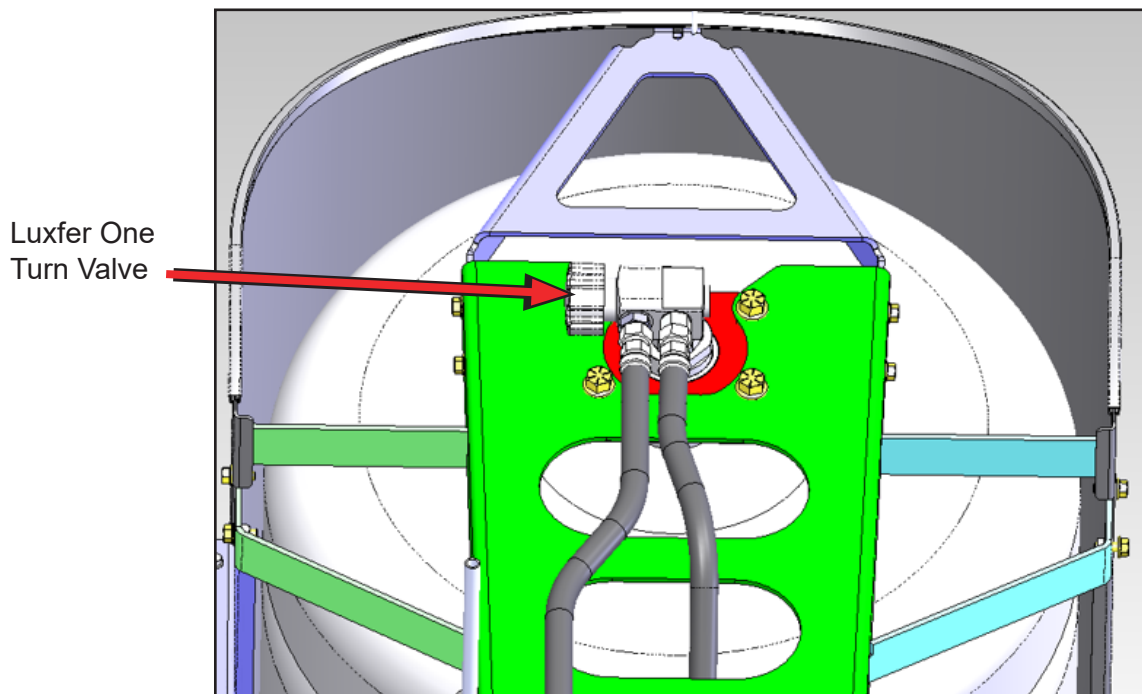

Figure 1
4. Refer to the illustration in Figure 1 to disconnect the hoses and remove the Luxfer valve and highlighted fittings (highlighted in blue) from both CNG tanks in the system for the rear discharge mixer. Discard the Luxfer valves.